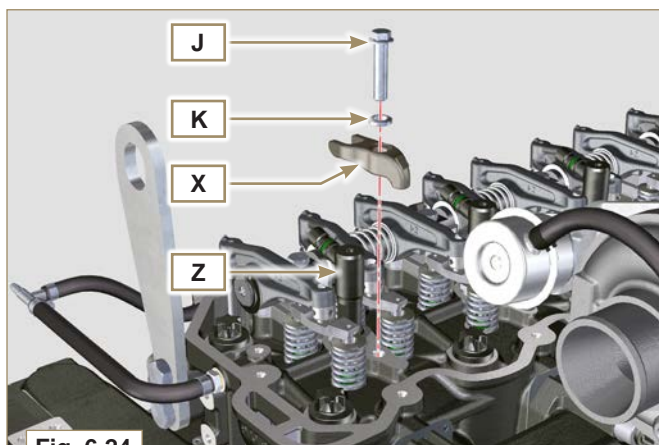

Fig. 6.24
- 5 - Tighten the screw **J** (tightening torque to 20 Nm - Fig. 6.24).